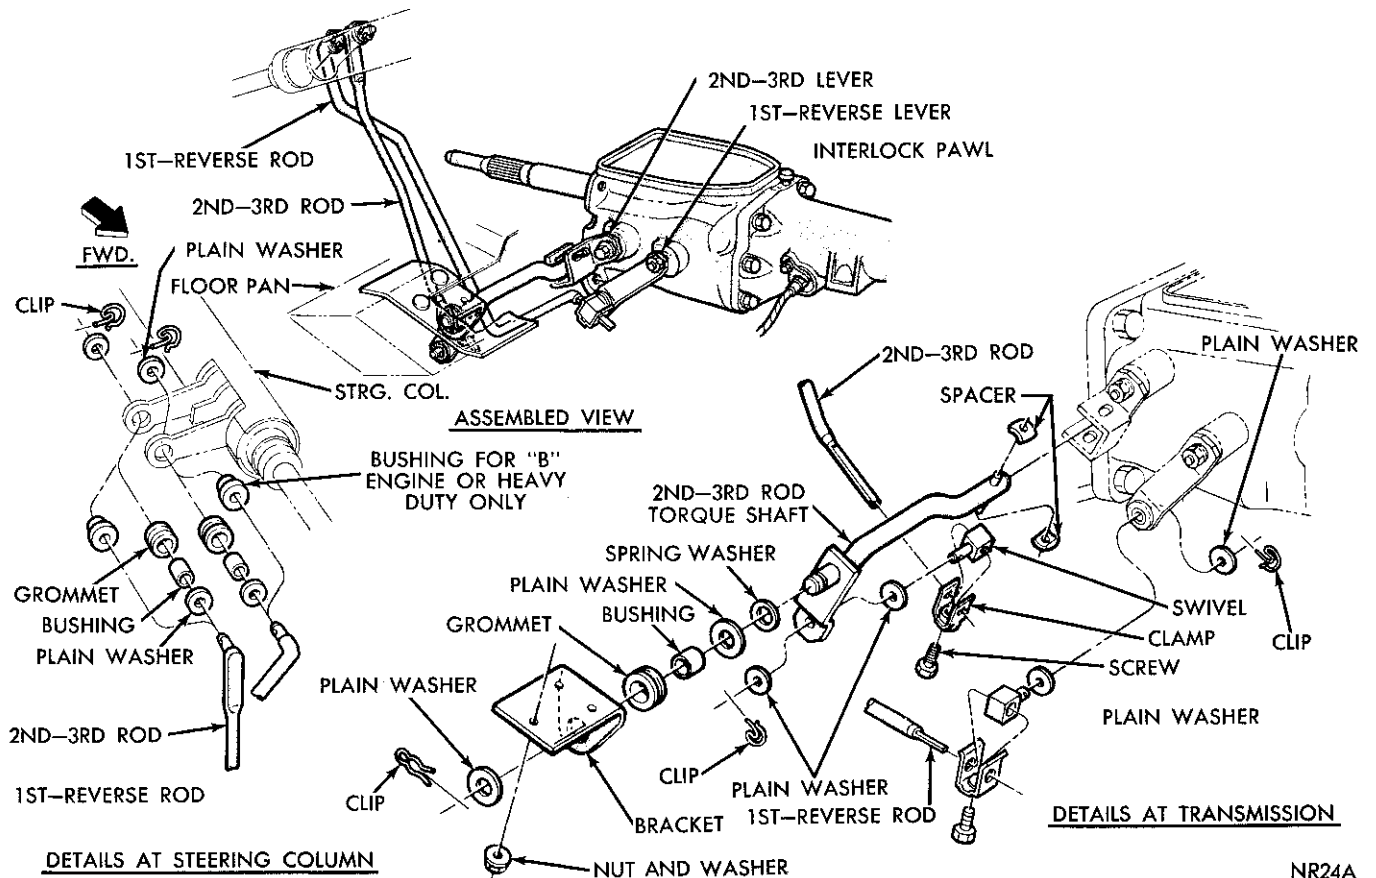
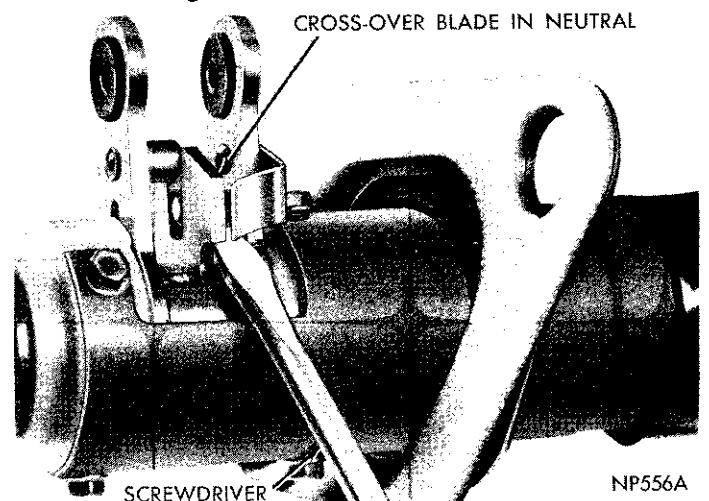

Fig. 43—Column Gearshift Linkage
Fig. 44—Holding Crossover Blade in Neutral Position
(1) Remove both shift rod swivels from transmission shift levers (Fig. 43).
(2) Make sure transmission shift levers are in neutral (middle detent) position.
(3) Move shift lever to line up locating slots in bottom of steering column shift housing and bearing housing. Install suitable tool in slot and lock ignition switch.
(4) Place screwdriver or suitable tool between cross-over blade and 2nd-3rd lever at steering column so that both lever pins are engaged by cross-over blade (Fig. 44).
(5) Set 1st-Reverse lever on transmission to reverse position (rotate clockwise).
(6) Adjust 1st-reverse rod swivel by loosening clamp bolt and sliding swivel along rod so it will enter 1st-reverse lever at transmission. Install washers and